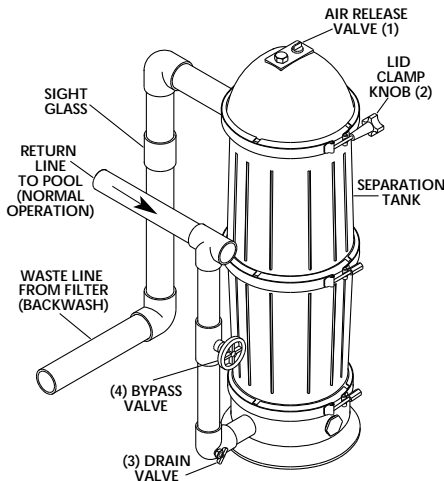

Figure 3
3. Open Air Release Valve (Key No. 1, Figure 3).
4. Open return line By-Pass Valve (Key No. 4, Figure 3).
1. Open air release valve (Key No. 1, Figure 3) on top of separation tank to release all pressure from inside of tank.
2. Open drain valve (Key No. 3, Figure 3) and drain all water from tank.